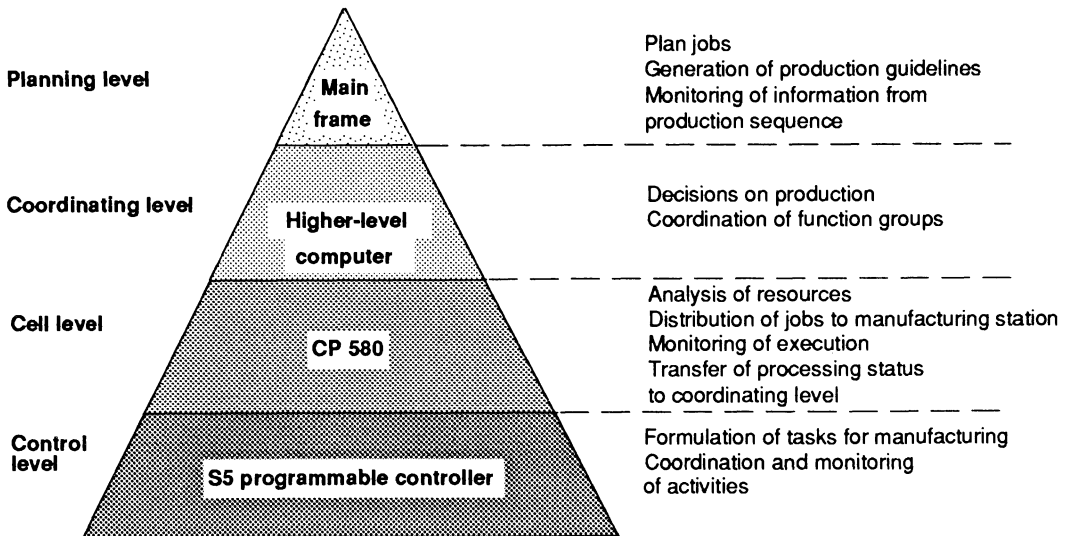

Fig. 1.1 The CP 580 communications processor in the automation pyramid
- to implement the cell level of a manufacturing system according to Fig. 1.1.
Fig. 1.1 shows a possible task of the CP 580 in the automation pyramid.